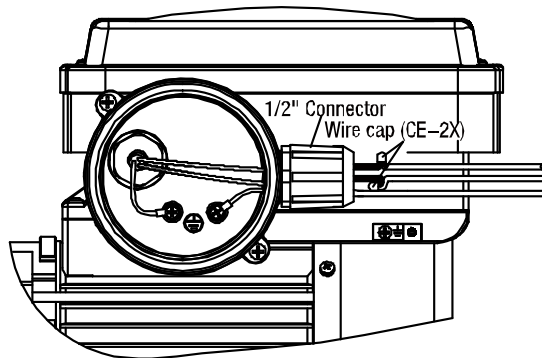

FIG. 3
- ☐ Install 1/2" connector to terminal box. Install ground wire to ground rod. using multi-function crimping pliers to connect two wires with two wire caps. (FIG.3)